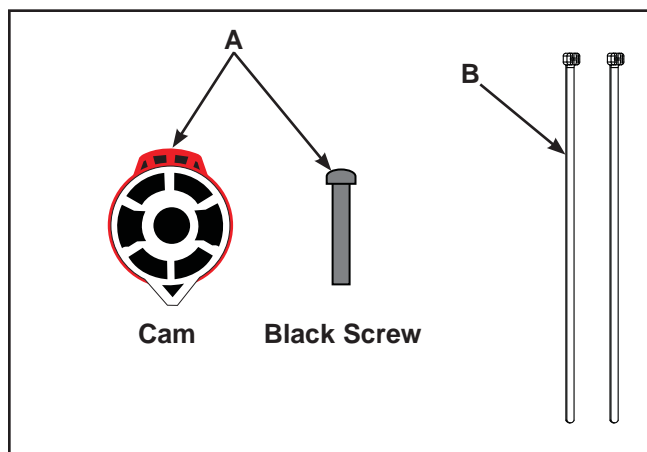

Figure 1
2. Verify the kit contents shown in Figure 1.
- A. Kit, Preset Cam Assembly, With Screw (1), KAX-22891
- B. Wire Tie, 9" (2), EH-00986
A. Locate the cam and black screw from the kit. See Figure 1.